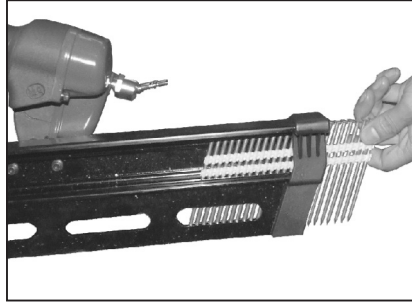

Figure 7
- B. Slide fasteners to the rear, and remove fasteners from magazine (see Fig. 7).